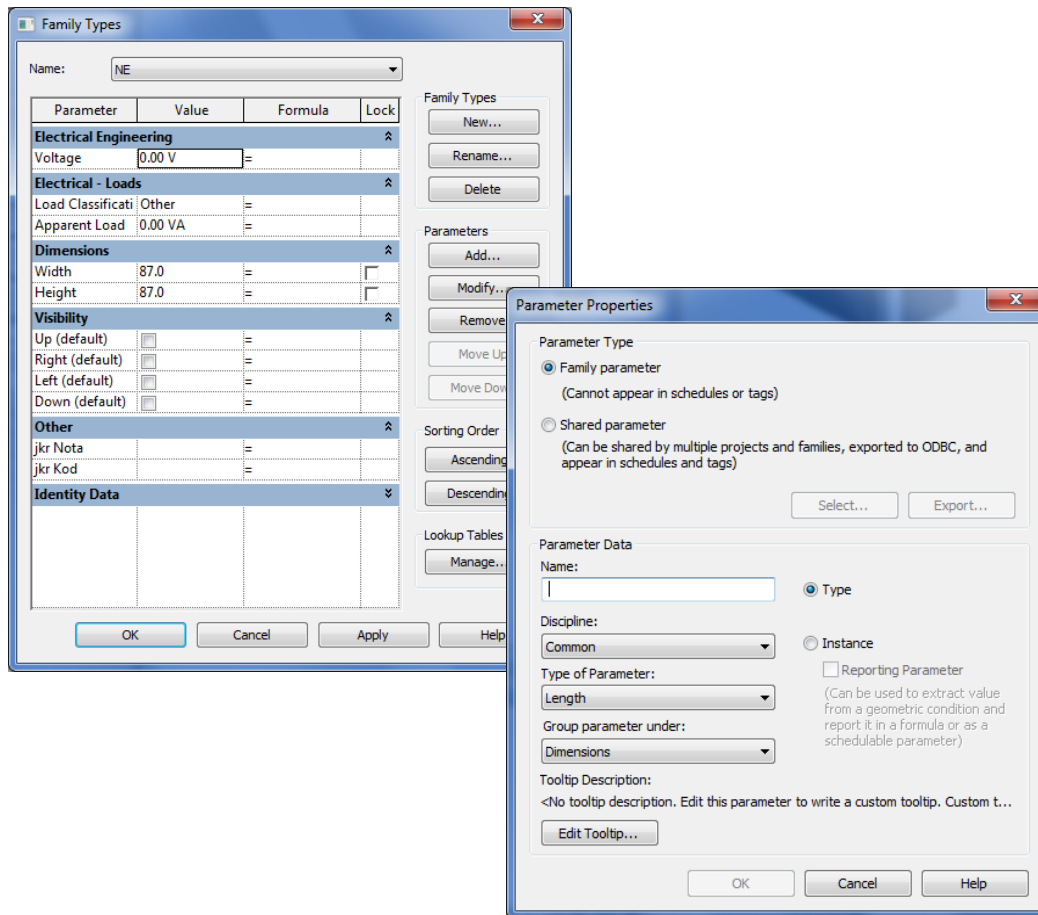

Figure 3.1
This creates a new family type that will be available in the Type Selector when you load it into a project as shown in Figure 3.1.
4. In the Parameter Properties dialog, under Parameter Type, select Family parameter as shown in Figure 3.1.